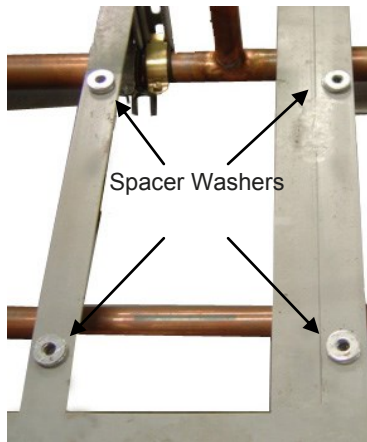

Figure 3.6
6. Place the same number of spacer washers provided with original 4D compressor over the existing mounting holes (Figure 3.6).